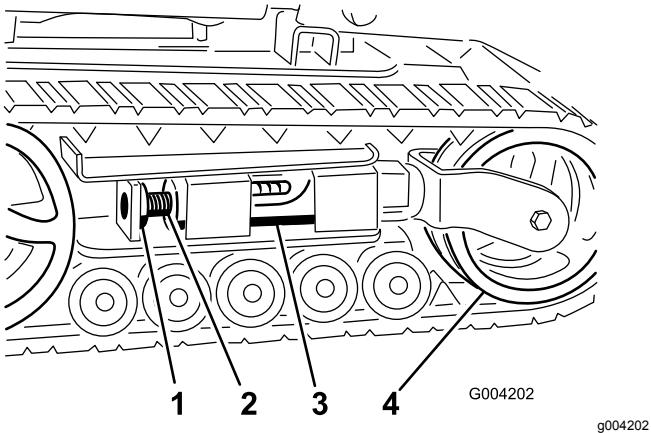
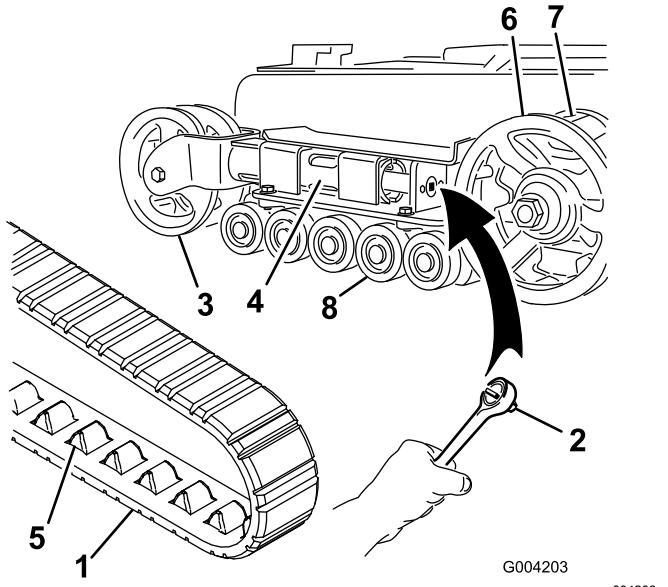
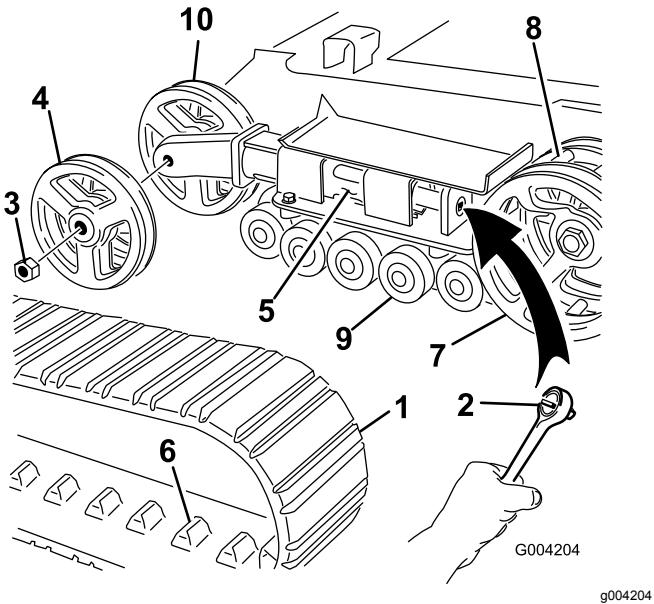

Figure 45
Figure 46
Figure 47
4. Remove the locking bolt and nut (Figure 45).
6. Align the closest notch in the tension screw to the locking bolt hole and secure the screw with the locking bolt and nut (Figure 45).
Note: You have narrow-width tracks if the front tension wheels are mounted inside a fork on the end of the tension tube (Figure 46).
5. Using a 1/2-inch drive ratchet, release the drive tension by turning the tensioning screw clockwise (Figure 45 and Figure 46).
6. Push the tension wheel toward the rear of the unit to move the tension tube against the frame (Figure 46). If it does not touch the frame, continue turning the tensioning screw until it does.
8. When the track is off the tension wheel, remove it from the drive sprocket and road wheels (Figure 46).
9. Beginning at the drive sprocket, coil the new track around the sprocket, ensuring that the lugs on the track fit between the cogs on the sprocket (Figure 46).
10. Push the track under and between the road wheels (Figure 46).
Note: You have wide-width tracks if the front tension wheels are mounted on the sides of the end of the tension tube (Figure 47).
5. Using a 1/2-inch drive ratchet, release the drive tension by turning the tensioning screw clockwise (Figure 45 and Figure 47).
6. Push the tension wheel toward the rear of the unit to move the tension tube against the frame (Figure 47).
7. Remove the nut securing the outer tension wheel and remove the wheel (Figure 47).
8. Remove the track (Figure 47).
9. Remove the nut securing the inner tension wheel and remove the wheel (Figure 47).
13. Install the inner tension wheel and secure it with the nut removed previously (Figure 47).
15. Install the new track, ensuring that the lugs in the track fit between the cogs in the middle of the drive sprocket (Figure 47).
16. Install the outer tension wheel and secure it with the nut removed previously (Figure 47).
6. Place the greased road wheel cap over the bolt head (Figure 46).
7. Secure the road wheel cap with the snap ring (Figure 46).